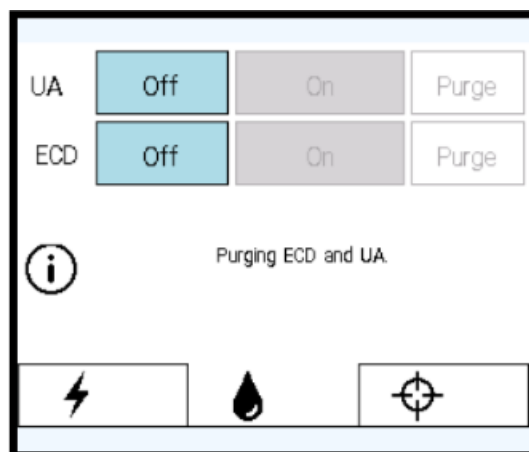
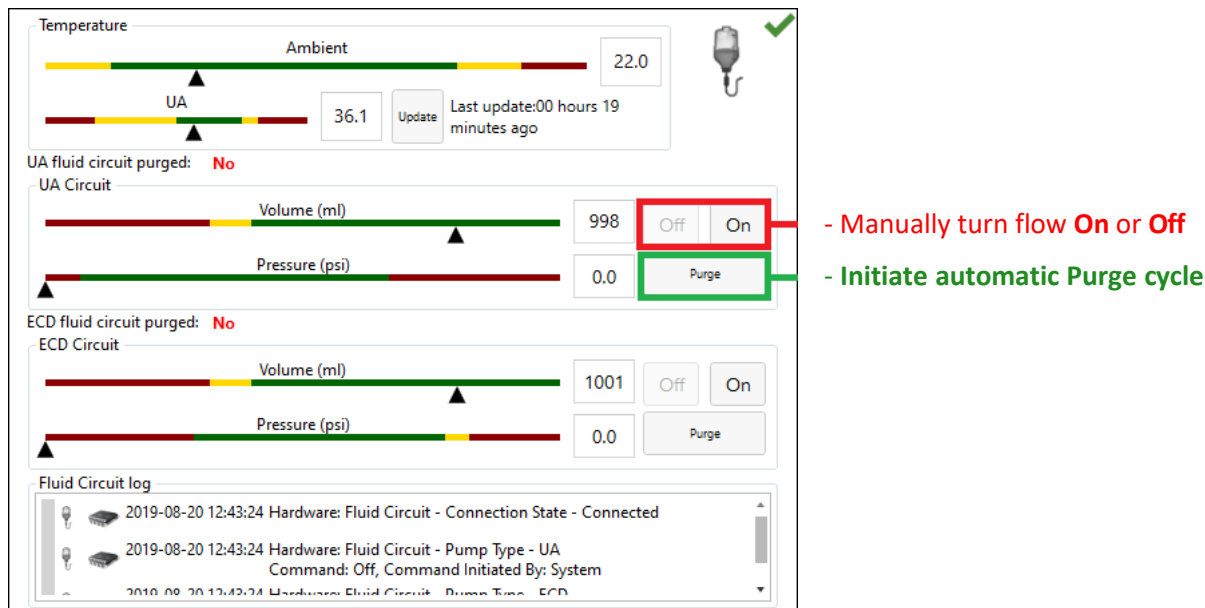

Figure 11: PSIB Display - Fluid Circuit tab
Figure 12: Fluid Circuit information box in TDC Setup workspace
- On the PSIB display, choose the **Fluid Circuit** tab  (Figure 11) and **Purge** the UA and ECD fluid circuits. You can also do this from the TDC by pressing **PURGE** beside the fluid circuit (FC) quadrant (Figure 12).
- a. If the purging cycle ends before completing the steps in this process, return to the PSIB display (or TDC window) and manually turn the flow on by clicking **On**. The fluid pumps will remain on until you click **Off** (*Figure 12*).